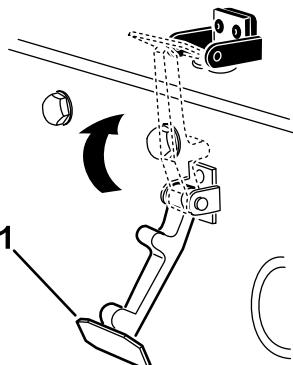

Figure 36
5. Hook the latch onto the hood-latch bracket (Figure 36).